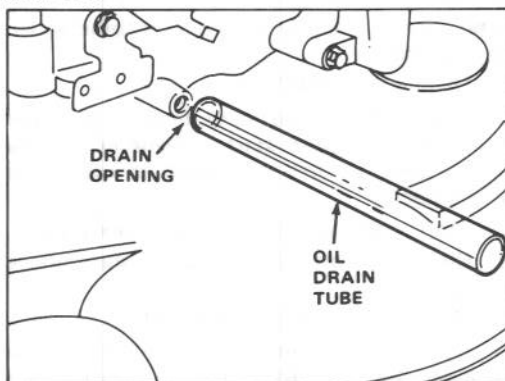

Figure 14
4. Insert oil drain tube over drain opening and lower mower. Raise right side of mower until all oil has flowed into drain pan (Fig. 14).